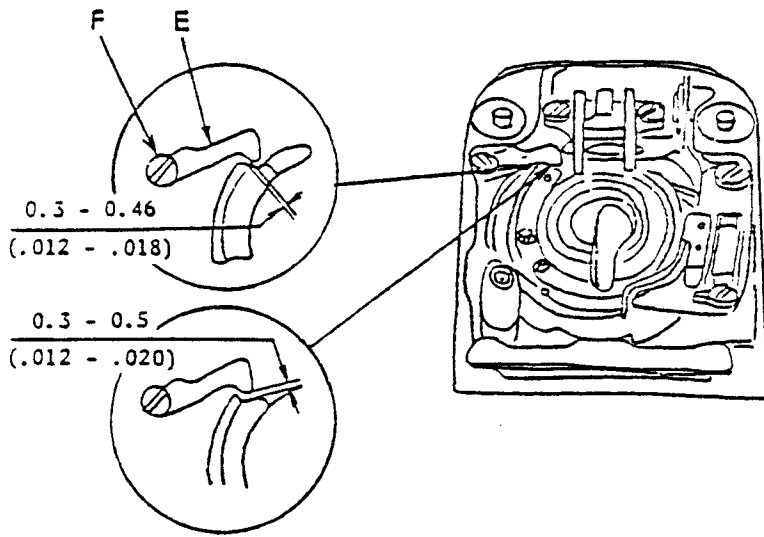

Fig. 32-3
3. Loosen LEFT-HAND THREAD set screw (F) holding bobbin case position finger (E). Move position finger (E) forward or backward to set 0.3 to 0.46 mm (.012 - .018) (Fig. 32-3) and 0.3 to 0.5 mm (.012 - .020) (Fig. 32-3) clearances between bobbin case (A) and position finger (E). Then tighten LEFT-HAND THREAD set screw (F).